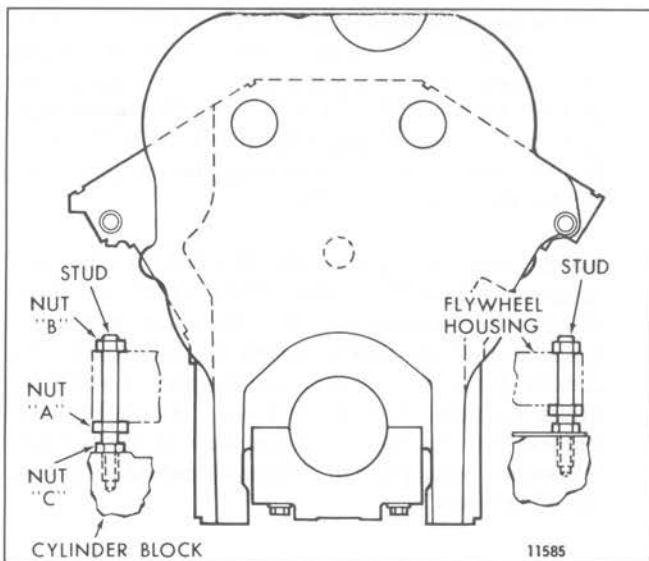

Fig. 7 - Location of Reinforced Flywheel Housing Support Studs
1. Thread jam nuts "A" and "C" on the studs (Fig. 7). Thread the longer stud into the left bank side of the cylinder block and the shorter stud into the right bank through the hole in the rear end plate. Tighten the studs.